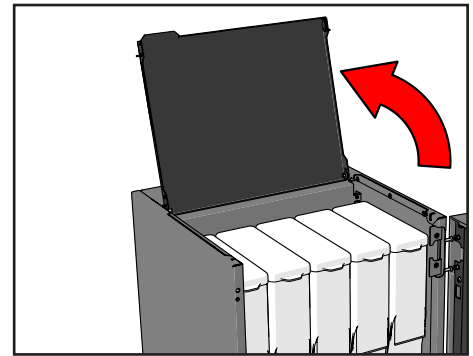

Figure 33.
3. Open the top cover (see Figure 33).